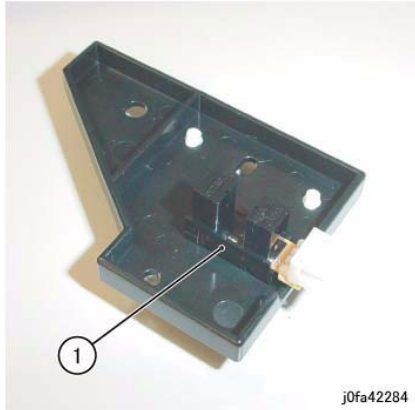

Figure 4 Removing the Rear Tamper Home Sensor
10. Remove the Rear Tamper Home Sensor (Figure 4):